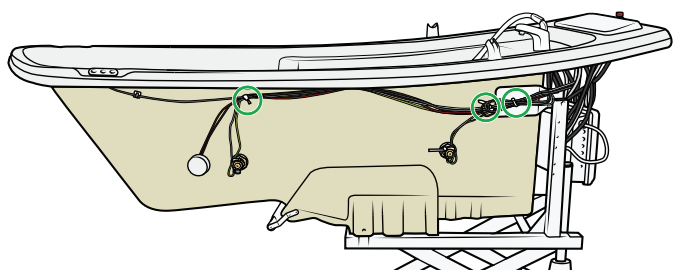

Figure 80
16. Attach cable ties on the left and right side. See Figure 80.